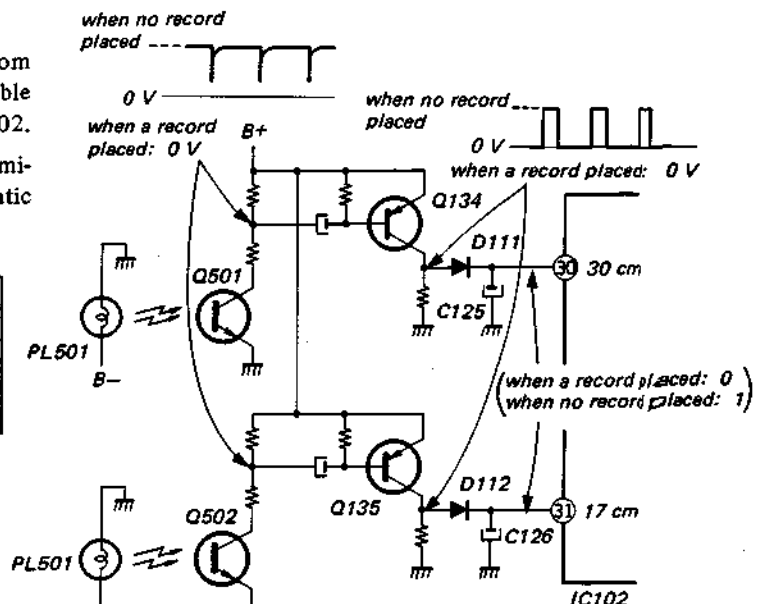

Fig. 4
4. Automatic Disk Size Detector (see Fig. 4):